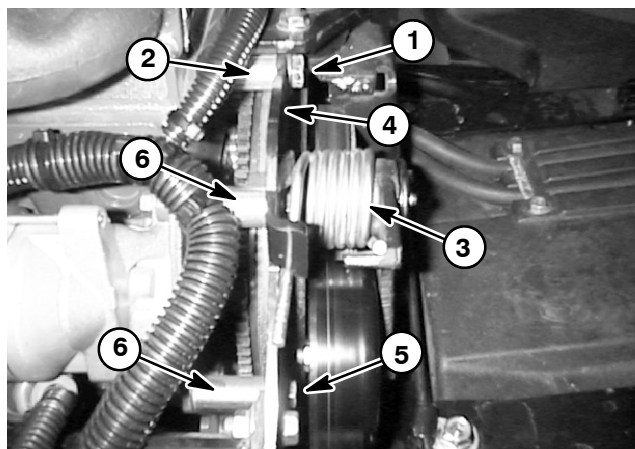

Figure 12
C. Remove five (5) cap screws, four (4) washers and five (5) spacers securing the pump mount plate to the engine (Fig. 12 and 13). Note location of spacers, washers and cap screws during removal.
D. Remove four (4) cap screws (item 12) and hardened washers (item 11) securing the right engine mounting bracket to the engine.
17. As necessary, remove engine mounts (item 3), front engine mounting bracket (item 13), throttle support bracket (item 42) and left engine mounting bracket (item 14).
C. Using locations noted during engine removal, secure pump mount plate to the engine with five (5) spacers, four (4) washers and five (5) cap screws (Fig. 12 and 13).